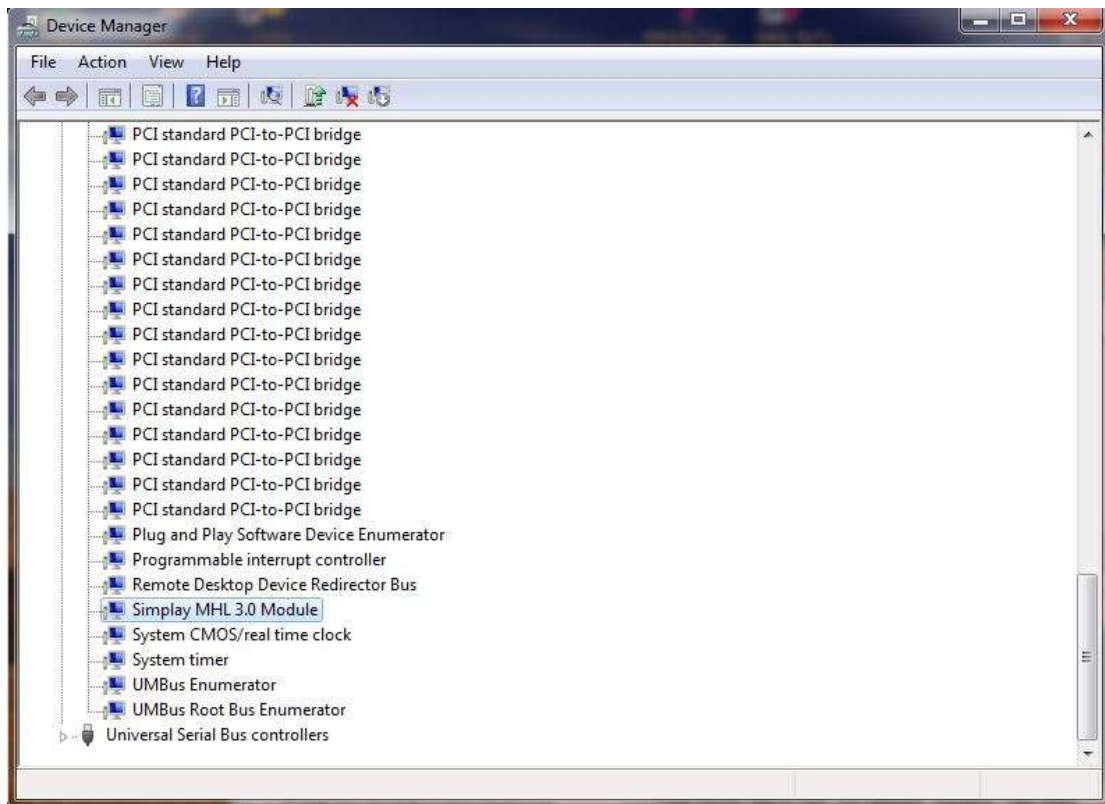

Figure 2.7. The Installed Driver in the Device List
7. At the same time, you can find the installed driver from the Device Manager (Figure 2.7).